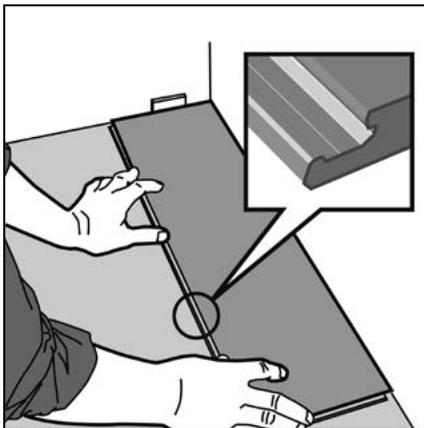

Figure 10 First plank, first row
- ▶ Start to lay the floor in the left-hand corner of the room with the lower edge profile on the long edge facing towards you. (fig. 10)